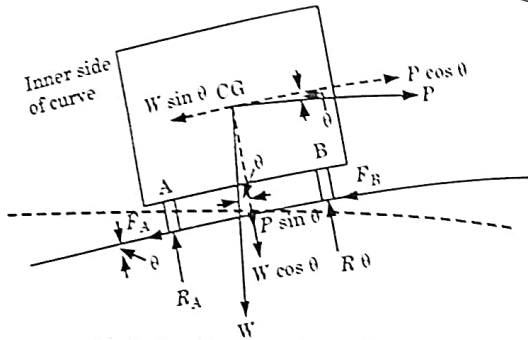

Fig. 2.16.1. Analysis of superlevation.
2. The superelevation ' e ' is expressed as the ratio of the height of outer edge with respect to the horizontal width. From Fig. 2.16.1 it may be seen that superelevation.
2. From Fig. 2.16.1, for equilibrium condition,